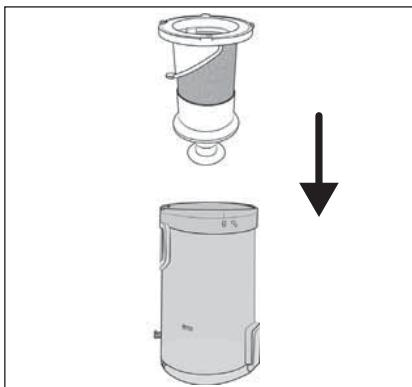

Fig. 26
- When cleaning the stainless steel filter ⑥, take care not to lose the rubber supports on the lower opening.
- 6) Insert the stainless steel filter ⑥ into the dirt container ⑦ and push it all the way down (see Fig. 26). Pay attention to the different sized locks on the stainless steel filter ⑥. The stainless steel filter ⑥ can only be inserted into the dirt container ⑦ in one position due to these locks.